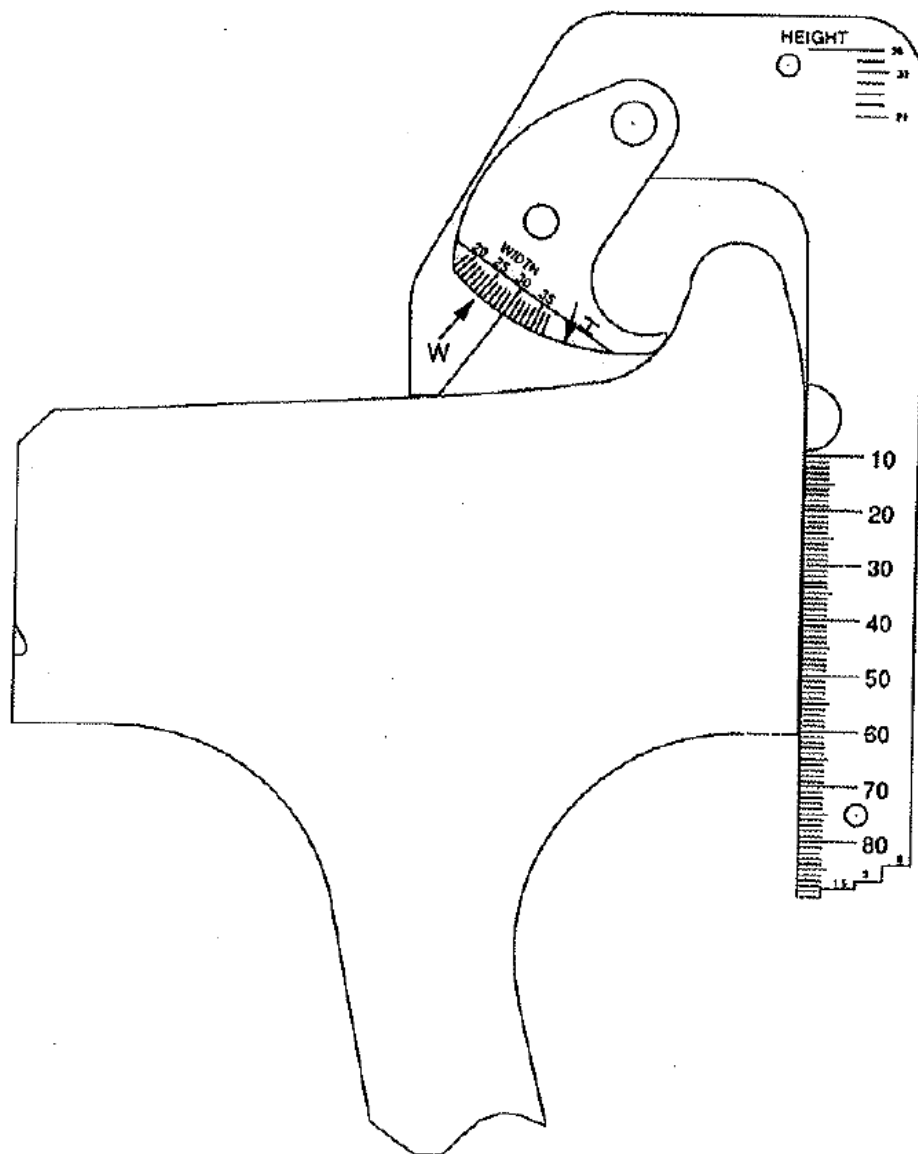

FIG 3. Measuring the flange width. (In this example, the flange width is 25mm.)
1. Hold the gauge as shown in FIG 3 below, against the rim back so that the bottom of the gauge is pointing towards the centre of the wheel and the tip of the arm is touching the wheel tread.